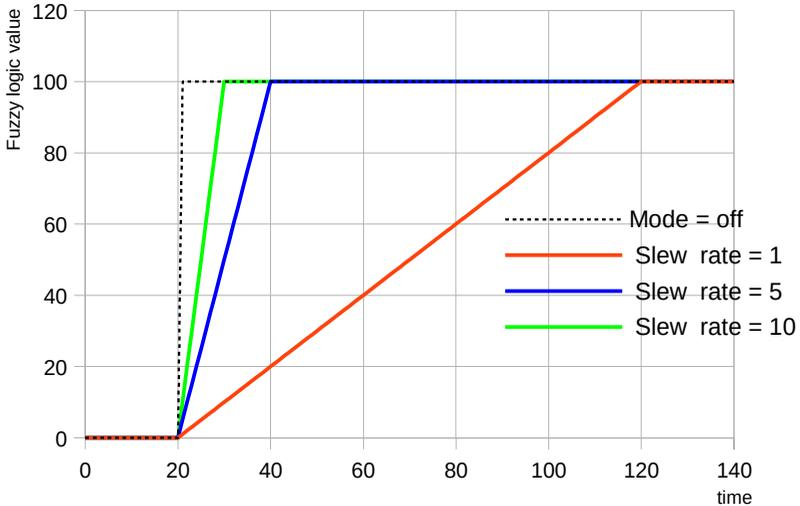

Fig. 7.114. Change of fuzzy logic value according to **Slew rate** parameter
- **Slew rate** – defines the slew rate, (see **Fig. 7.114**),